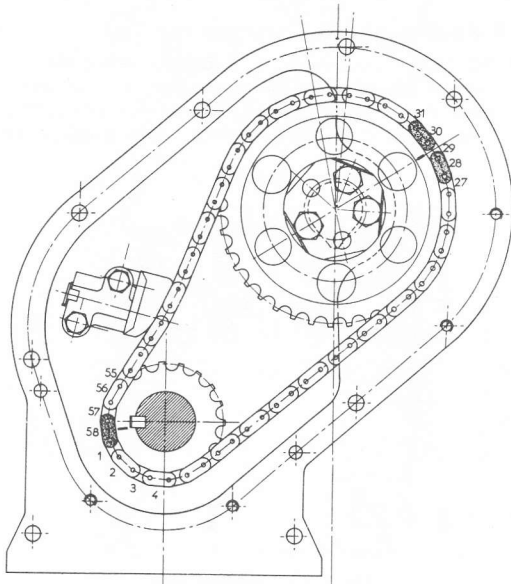

FIG 1:14 The timing gear assembled for correct valve timing
- 2 Fit the camshaft sprocket to the camshaft temporarily and position the mark on the sprocket at approximately the two o'clock position (see FIG 1:14).